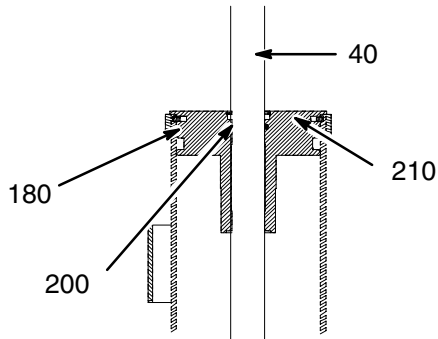

Fig. 23
13. Service the guide sleeve (Fig. 23):
- Remove the 2 old o-rings (180) and (200) in Fig. 23) from inside and outside the guide sleeve. Replace the o-rings with new ones.
- Slide the guide sleeve back onto the lift rod, positioning the guide sleeve so that the spiral retaining ring relieved area (10) faces toward the middle of the ram. Then push the guide sleeve all the way into the cylinder.